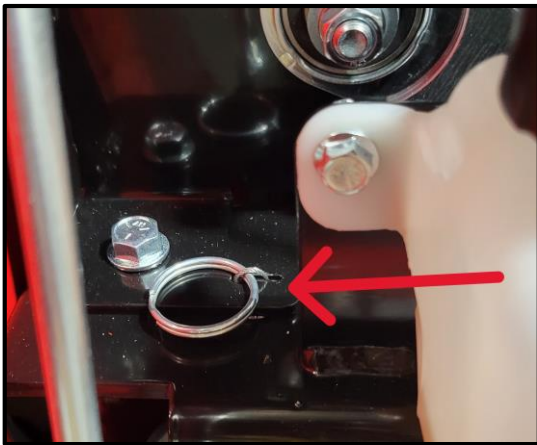

Figure 10 Transaxle Bypass Valve Disengaged
- d. Close the bypass valve as shown [Figure 10].